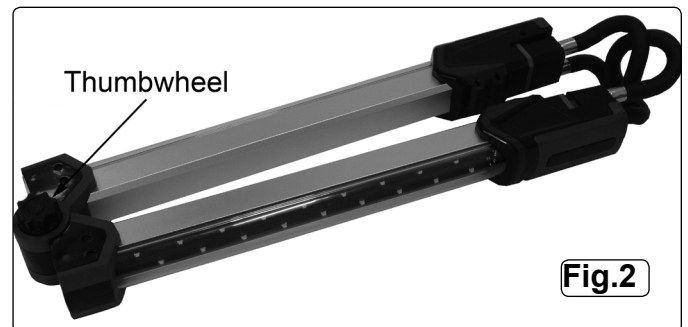

Fig.2
- 3.1.3. Fold the lamp out straight, tighten the thumbwheel (see Fig.2.). Place the padded hook at the end of the lamp, over one edge of the bonnet, and gently pull the lamp towards the other side of the bonnet.